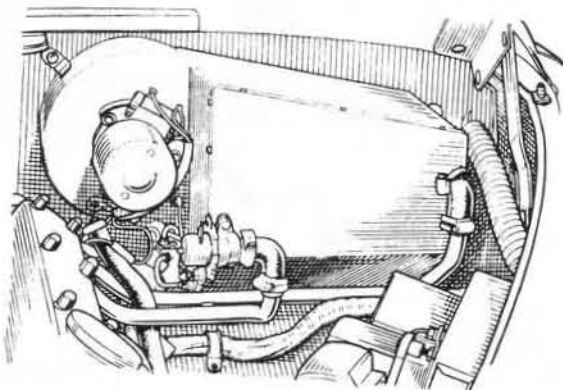

Fig.12.29. The heater unit and water control tap
28 Heater unit (Fig.12.29) - removal and refitting
- 2 Refer to Fig.12.29 which shows the location of the tap.